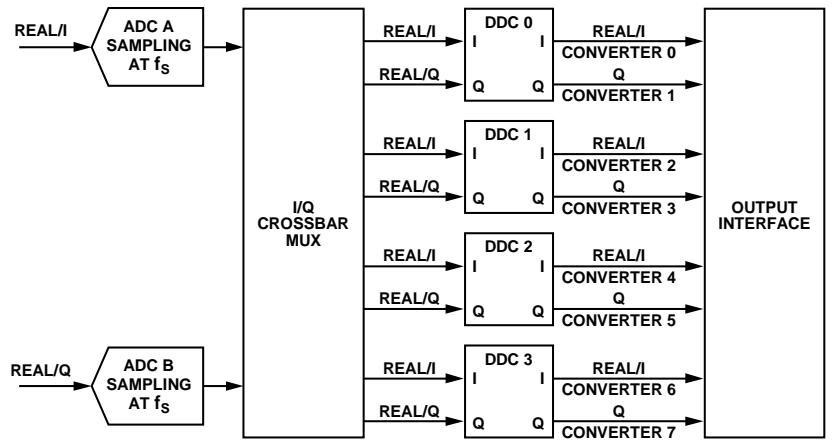

Figure 135. DDCs and Virtual Converter Mapping
The JESD204B Tx block for AD6674 supports up to four digital DDC blocks. Each DDC block outputs either two sample streams (I/Q) for the complex data components (real + imaginary) or one sample stream for real (I) data. The JESD204B interface can be configured to use up to eight virtual converters depending on the DDC configuration. Figure 135 shows the virtual converters and their relationship to DDC outputs when complex outputs are used. Table 34 shows the virtual converter mapping for each chip operating mode when channel swapping is disabled.
If the internal DDCs are used for on-chip digital processing, the M value represents the number of virtual converters. The virtual converter mapping setup is shown in Figure 135.